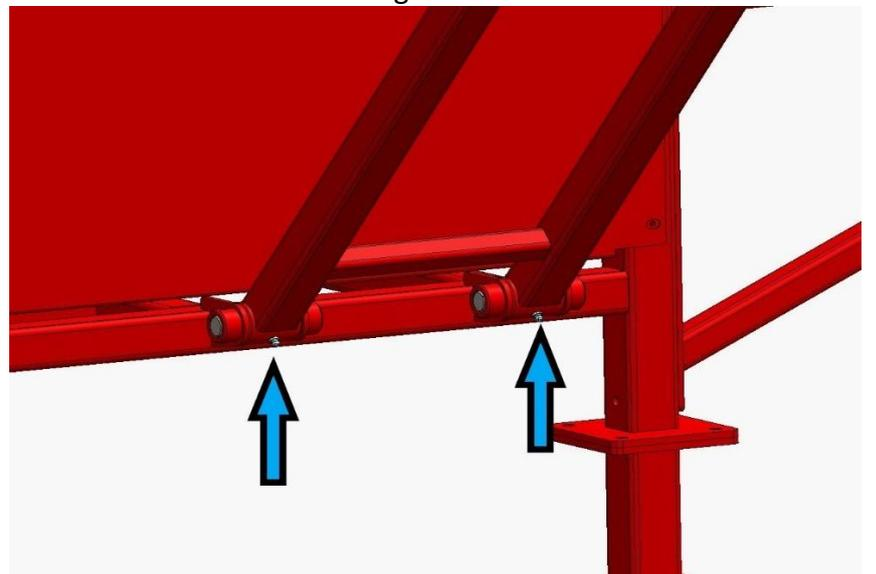

Figure 49.
9. Grease nipples of the log table support legs (2 pcs, Figure 49).